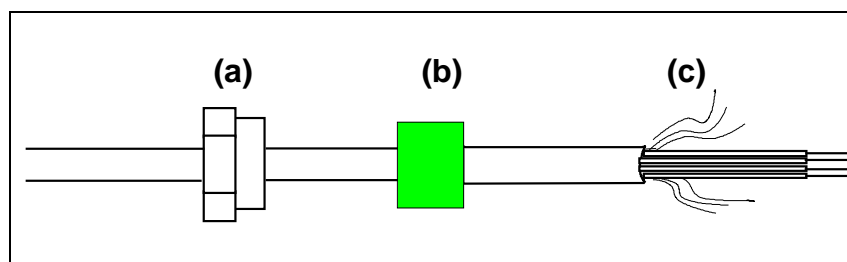

Figure 14:
- Slide the compression screw and the neoprene seal over the shielded cable as illustrated in Figure 14.